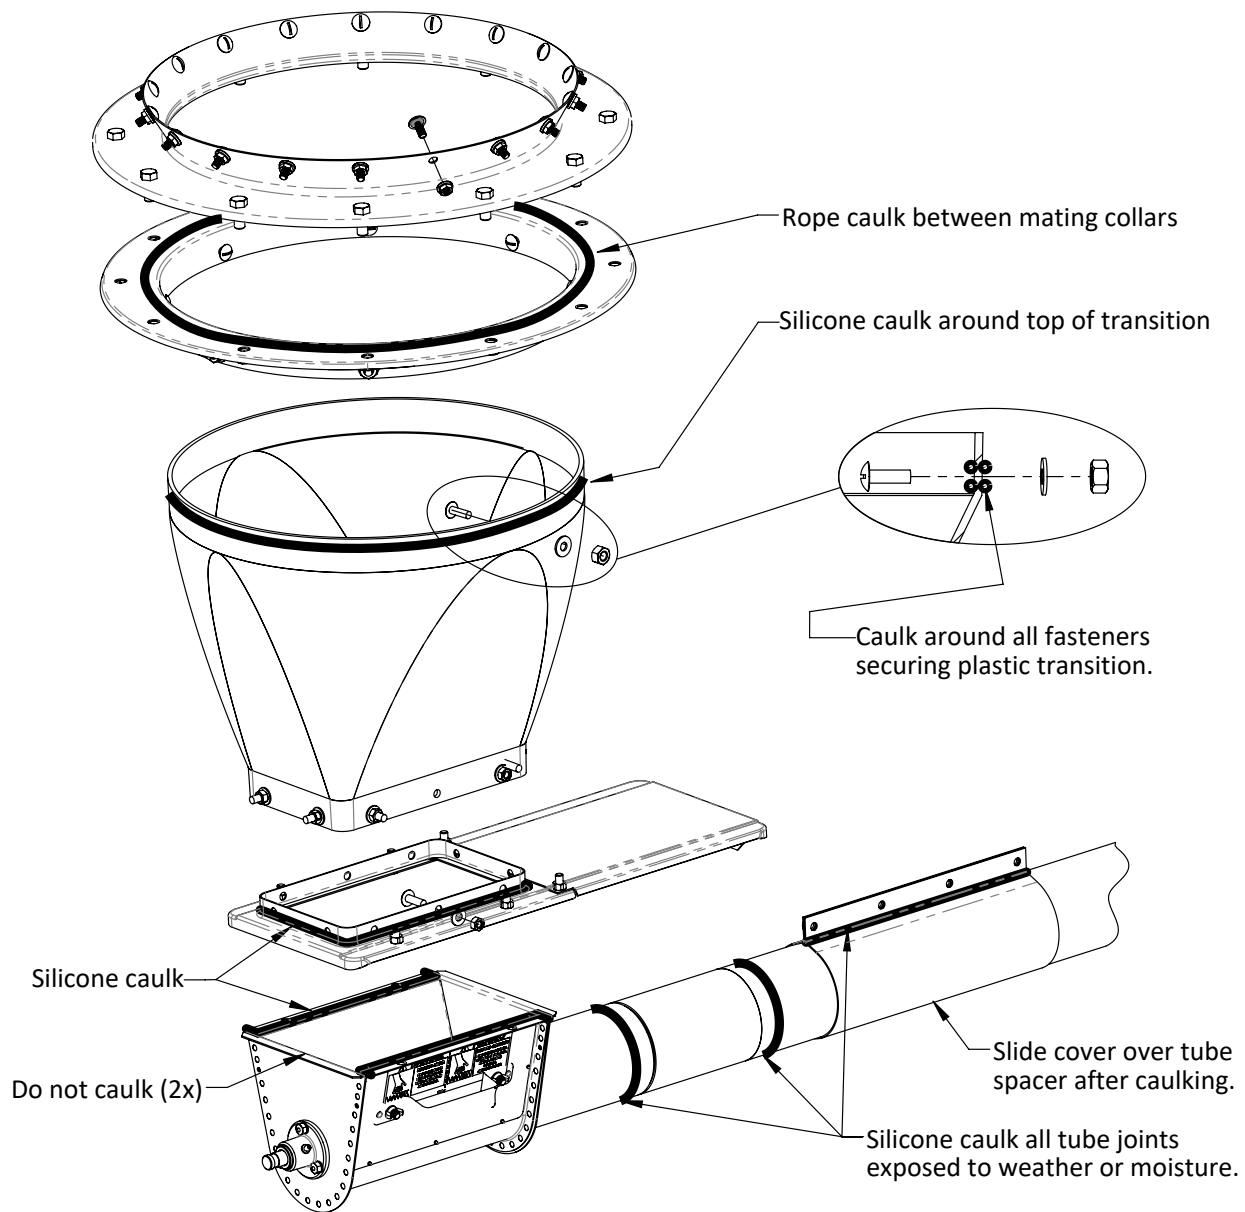

Figure 21
- There must be bead of caulk sealing each hardware hole (Figure 21, detail view).